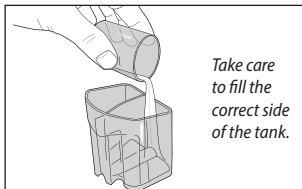

Fig. 5
7. Add 80 ml of tap/distilled water to the larger capacity side of the secondary fill tank (the side where the suction tube feeds), Fig. 5.